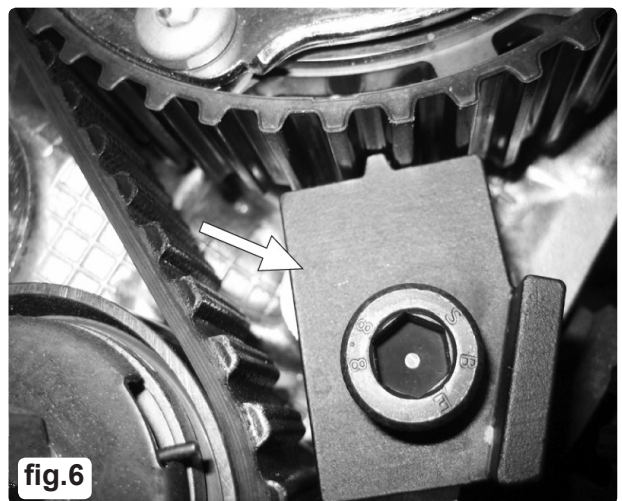

fig.6
- 4.2.4 Fit VS4911 Locking Tool to the engine, as shown in Fig.6, and firmly secure in place using the bolt provided in the VS4510A Kit.